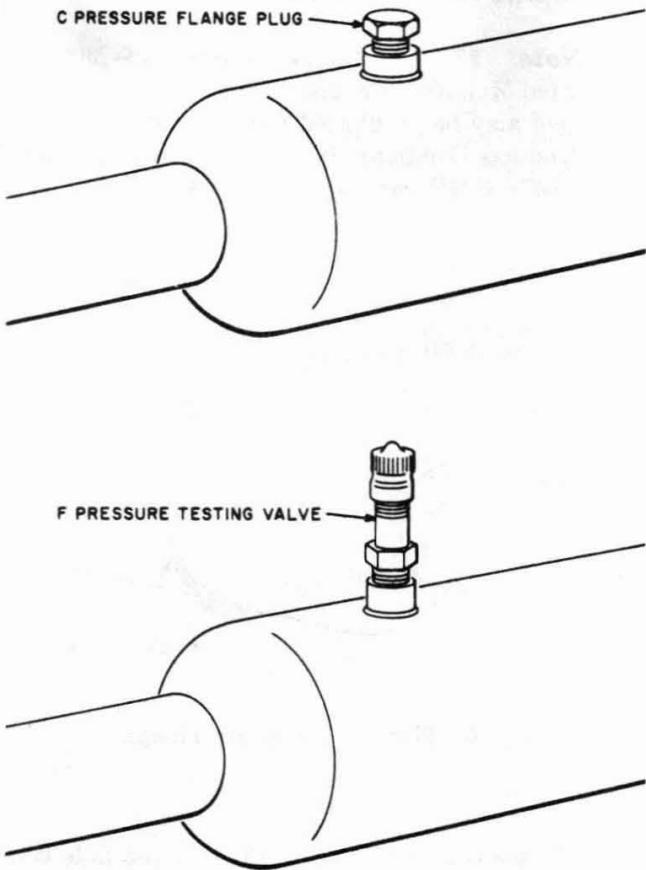

Fig. 7—Placing Flange Plug or Pressure Testing Valve in C Pressure Flange
- (1) Scuff the sheath or sleeve with a carding brush (paragraph 1.03) where the flange is to be placed and coat with stearine.
- (2) When the flange is to be soldered to a relatively small diameter cable or sleeve, slightly flatten the sheath or sleeve to provide a closer fit, which will facilitate soldering.
- (3) Form a ring from a piece of C stearine core solder 2-1/2 inches long.
- (4) Place the flange on top of the sleeve and place the solder ring around the base of the flange.
- (6) If sealing an existing hole or if the hole was drilled prior to installing the flange, plug the hole with paper or muslin to prevent solder from flowing into the hole during the soldering operation.
- (7) Apply a hot soldering copper to the top of the flange or play the flame from a torch on the flange until the solder flows and adheres evenly to the flange and sheath.
- (8) Drill a hole in the sheath and prepare the sheath as covered in ♦Section 637-235-100, Part 9.♦
- (9) Be sure to remove the paper or muslin from the drill hole after the solder work is completed, and make sure that the opening is clear for the free flow of air.
(10) Before placing either the C pressure flange plug or F pressure testing valve in the flange (Fig. 7), coat the threads with teflon pipe sealing tape to ensure an airtight seal.